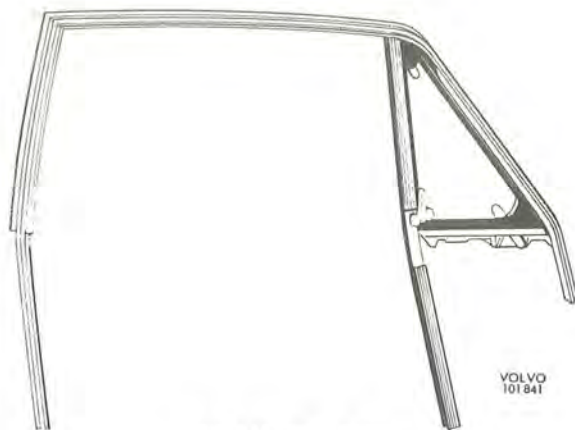

Fig. 8-12. Door frame
3. After the rubber strip round the ventilation window has been removed from the groove all round, the window with strip can be taken off, see Fig. 8-12.